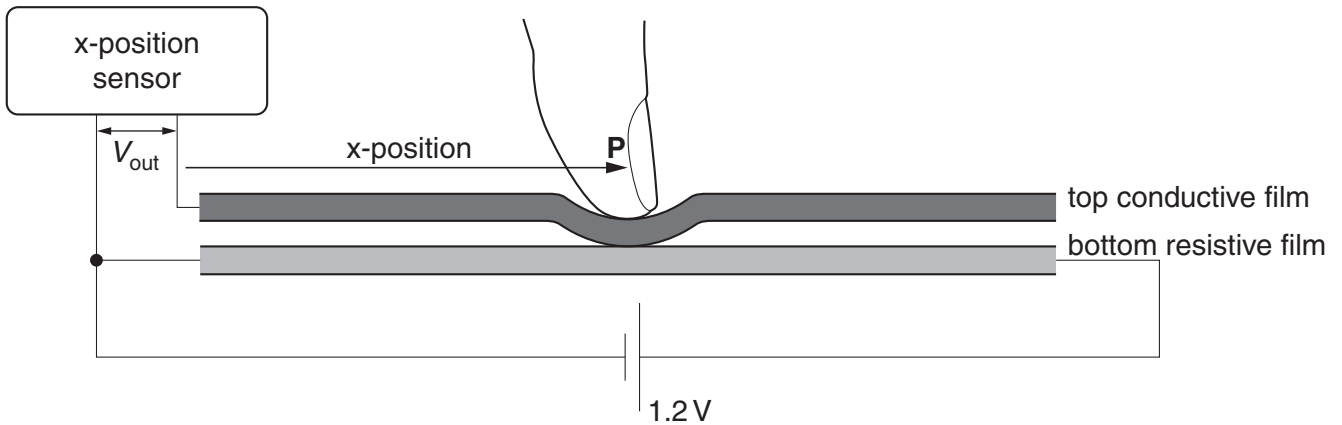
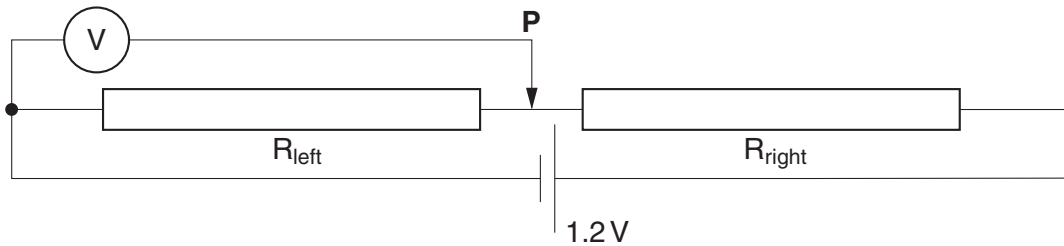

Fig. 10.2a
Fig. 10.2b
- (c) Fig. 10.2a shows the circuit connections to measure the x-position on the touch-sensitive screen. Fig. 10.2b shows the equivalent potential divider circuit using conventional circuit symbols. Point **P** represents the point of contact between the films.